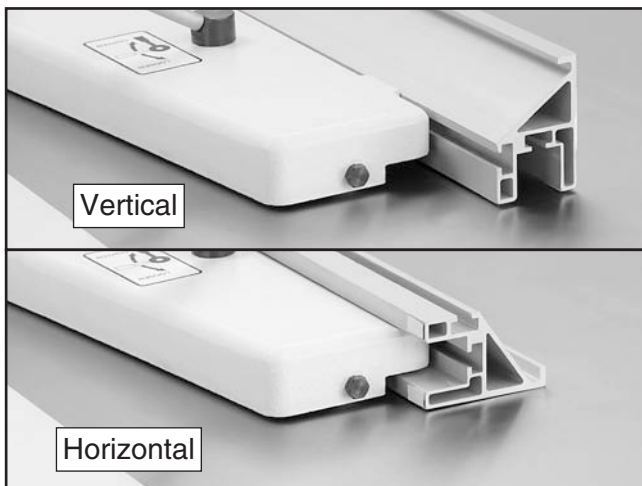

Figure 81. Rip fence positions.
3. The rip fence can be installed in the vertical position for thicker workpieces, or in the horizontal position for smaller workpieces (see **Figure 81**).